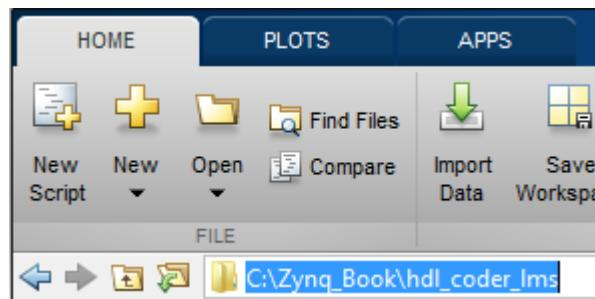

Figure 4.19: Setting the MatLab working directory
- (c) Enter **C:\Zynq_Book\hdl_coder_lms** as the working directory, as highlighted in Figure 4.19.